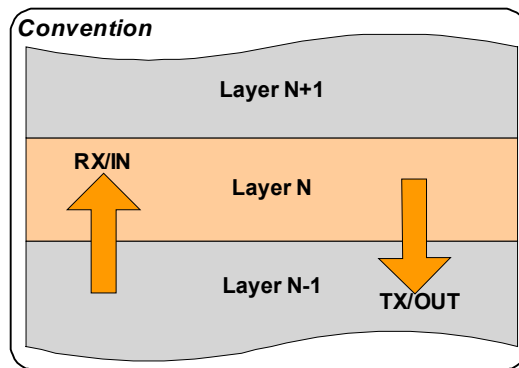

Figure 70 - RX and TX Convention
All statistics presented by Dataradio follow a convention presented in Figure 70. Layer n statistics are given with respect to the layer immediately below it: layer $n-1$. RX (Receive) or IN refers to data received by layer n from layer $n-1$. Transmit (TX) or OUT refers to data transmitted by layer n to layer $n-1$.